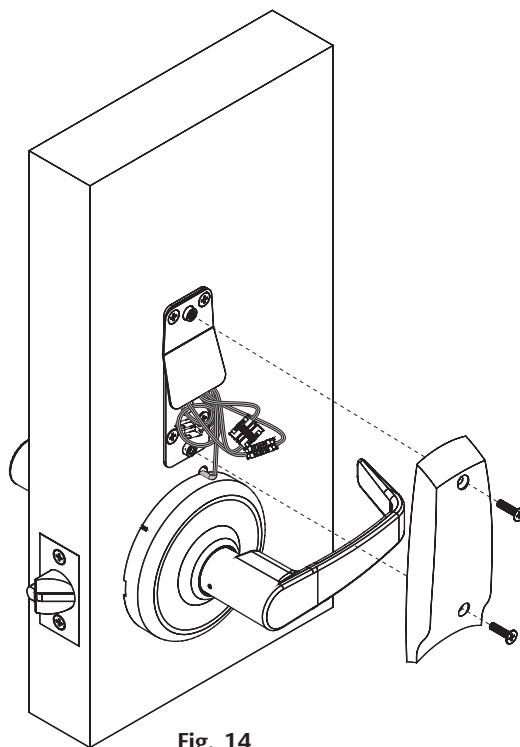

Fig. 14
- a. Tighten the inside escutcheon securely to the mounting plate with the Phillips flat head machine screws provided (Fig. 14).